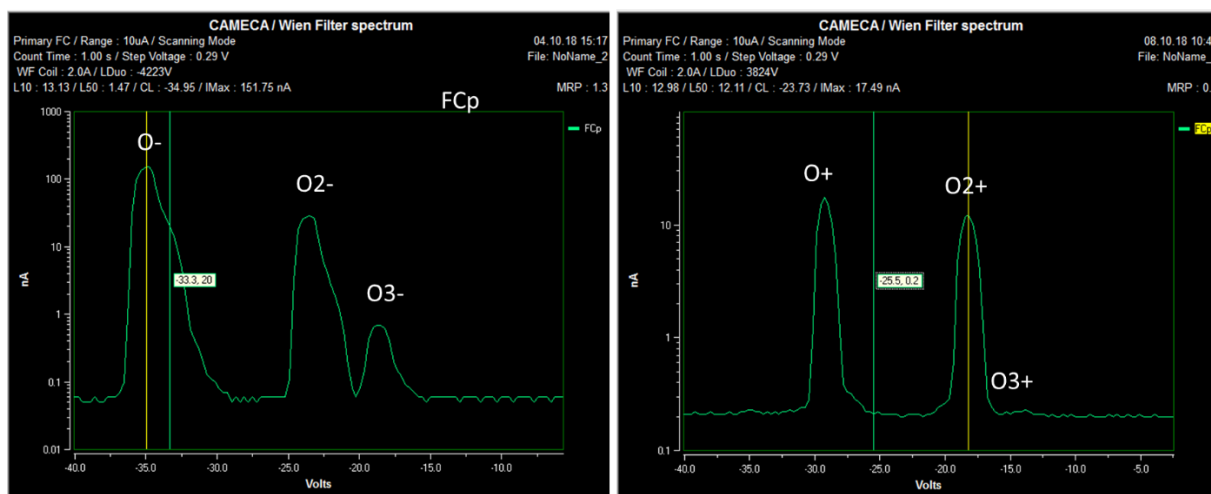

Figure 398: scan of the Wien Filter in both negative (left) and positive (right) modes.
- 5- With a gas bottle of pure oxygen you should see 3 peaks, as shown on Figure 398. From left to right: O-, O2-, O3-. Center the cursor on the desired peak – usually O- and O2- (by default the program will center on the most intense, thus O-).